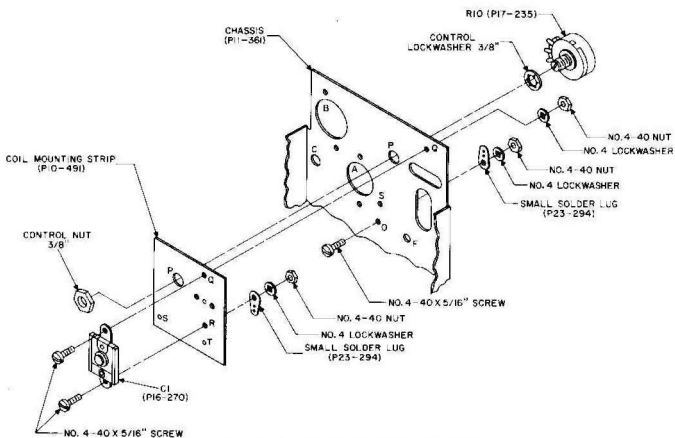

Figure 6. Coil Mounting Strip Assembly
- () 10. Mount the "small solder lug" on the underside of the chassis at hole marked "O" (figure 6). Use a No. 4-40 x 5/16-inch screw, No. 4 lockwasher, and No. 4-40 nut to secure the lug. Position the lug so that one of the holes in the wire attachment end lines up with hole "S".
- () 11. Place the coil mounting strip on the top side of the chassis (figure 6) so that mounting strip holes "P", "Q", "R", and "S" line up with the corresponding marked holes in the chassis. Mount the 40,000-ohm (40K) potentiometer R10 (P17-235A) through hole "P" from the underside of the chassis with terminals facing the front flap of the chassis. Secure the potentiometer with a 3/8-inch lockwasher and a 3/8-inch control nut. Make sure that holes "Q", "R", and "S" of the mounting strip line up with the corresponding holes in the chassis after tightening the nut.
- () 12. Mount the trimmer capacitor at holes marked "Q" and "R" on the coil mounting strip. Bend the trimmer mounting tabs out, as shown in figure 6. Secure the trimmer with two No. 4-40 x 5/16-inch screws, two No. 4 lockwashers, and two No. 4-40 nuts. Place a "small solder lug" under the nut and lockwasher at hole "R". Orient the lug so that one of the holes in the wire attachment end lines up with hole "T".